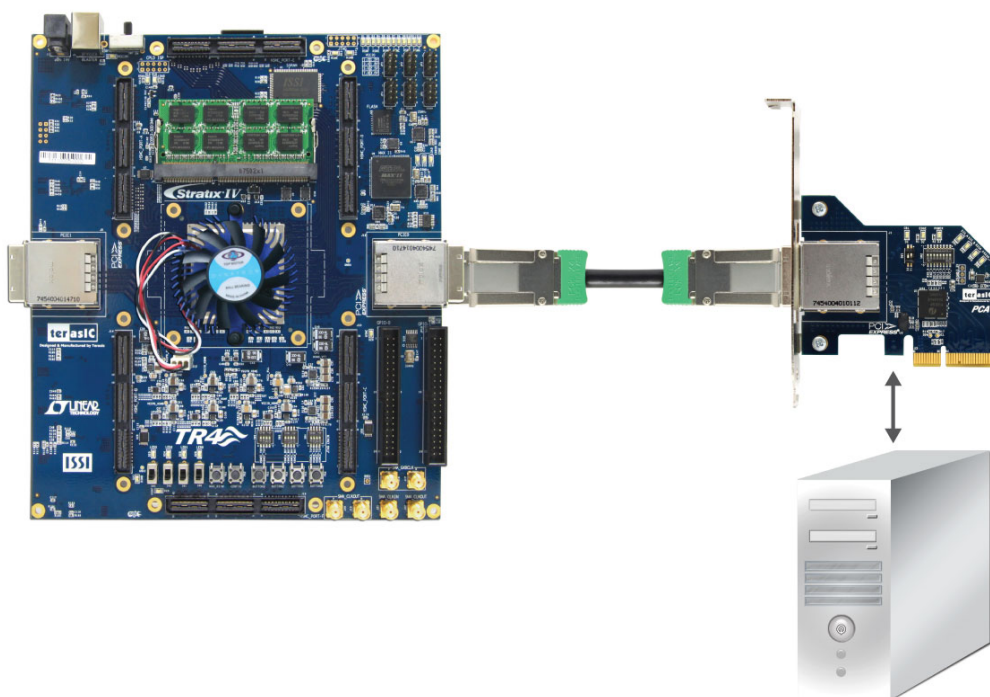

Figure 4-2 PCIe Fundamental Communication Demonstration Setup
- Use the PCIe cable to connect to the TR4 PCIE0 connector and PCIe adapter card as shown in Figure 4-2